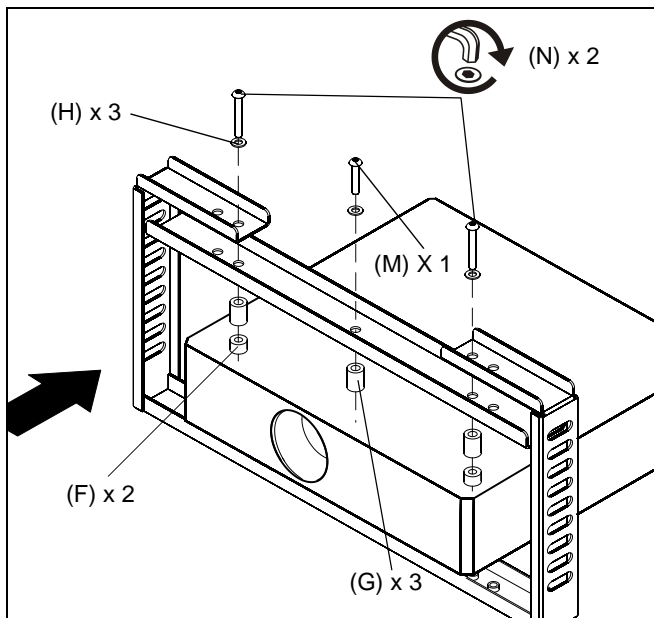

Figure 2
4. Slide remaining brackets (B) and (C) over front of projector. (See Figure 2)
5. Attach brackets to projector using three button head cap screws [(M) x 1, (N) x 2]; three flat washers (H), and five spacers [(F) x 2, (G) x 3]. (See Figure 2).